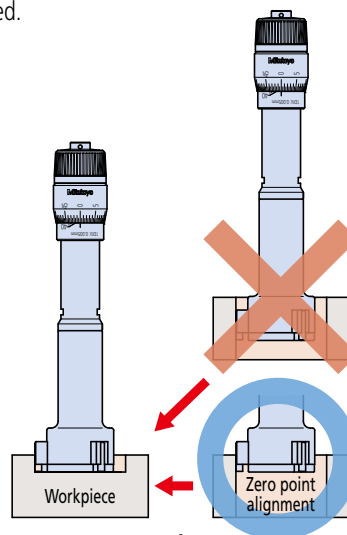

Fig. 1
4. If measuring at the tip of the anvil, make sure to align the zero point at the same position of the tip. (**Fig. 1**)